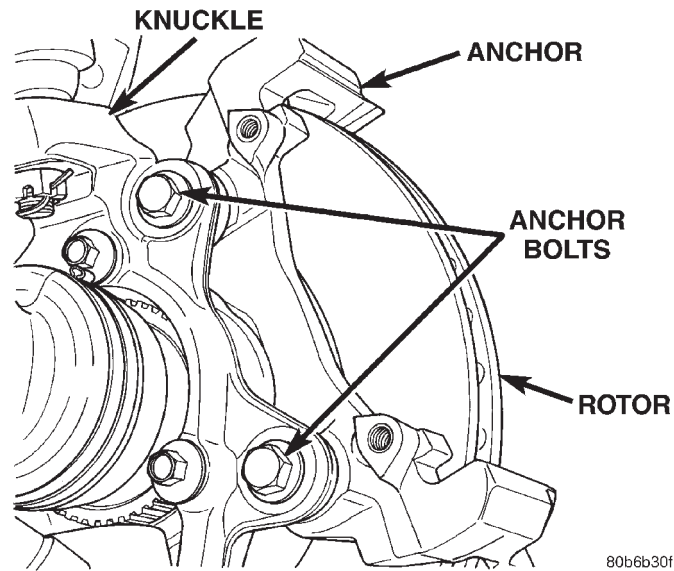

Fig. 32 Caliper Anchor Bolts
- (1) Raise and support the vehicle.
- (2) Remove wheel and tire assembly.
- (3) Remove the caliper anchor bolts (Fig. 32) and remove the caliper and anchor as an assembly from the steering knuckle.